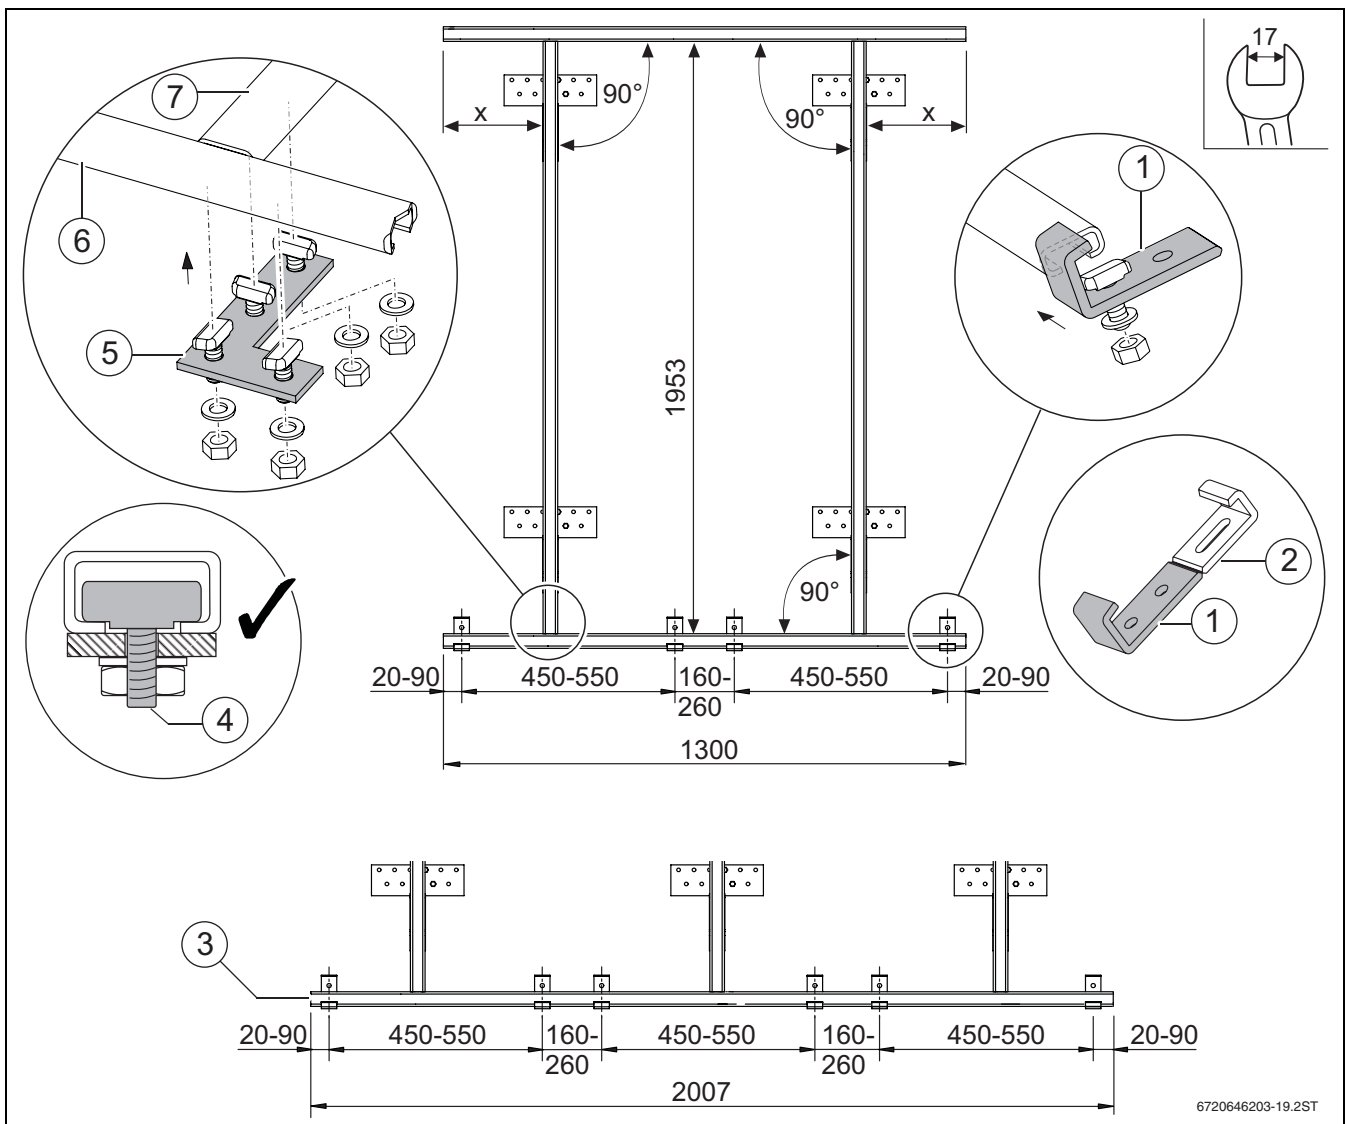

Fig. 29 Rails and clips, all dimensions in mm
→ Fig. 29, page 21.
- ▶ Pre-assemble lower clamps onto the horizontal rail (1300 mm or 2007 mm): → Fig. 29, page 21.
- ▶ Install the lower clamps [1] onto the bottom rail at the distances indicated (→ Fig. 29) and fit them using a nut and a washer. Use a SW17 spanner.
When installing the rails, ensure they are aligned accurately (dimension x: same overhang on the right and left → Fig. 29).